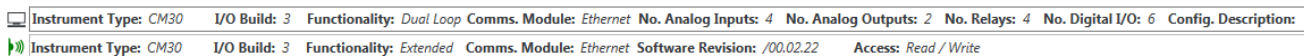

Fig. 8.1 Connected device box showing connection established
7. Align the USB IrDA adaptor with the ControlMaster to establish a connection. When a connection is established the  icon in the bottom left-hand corner of the ConfigPilot main window turns green and the *Connected device* box is populated as shown in Fig. 8.1, page 6.
When a connection is established the  icon in the bottom left hand corner of the ConfigPilot main window turns green and the *Connected device* box is populated as shown in Fig. 8.1.